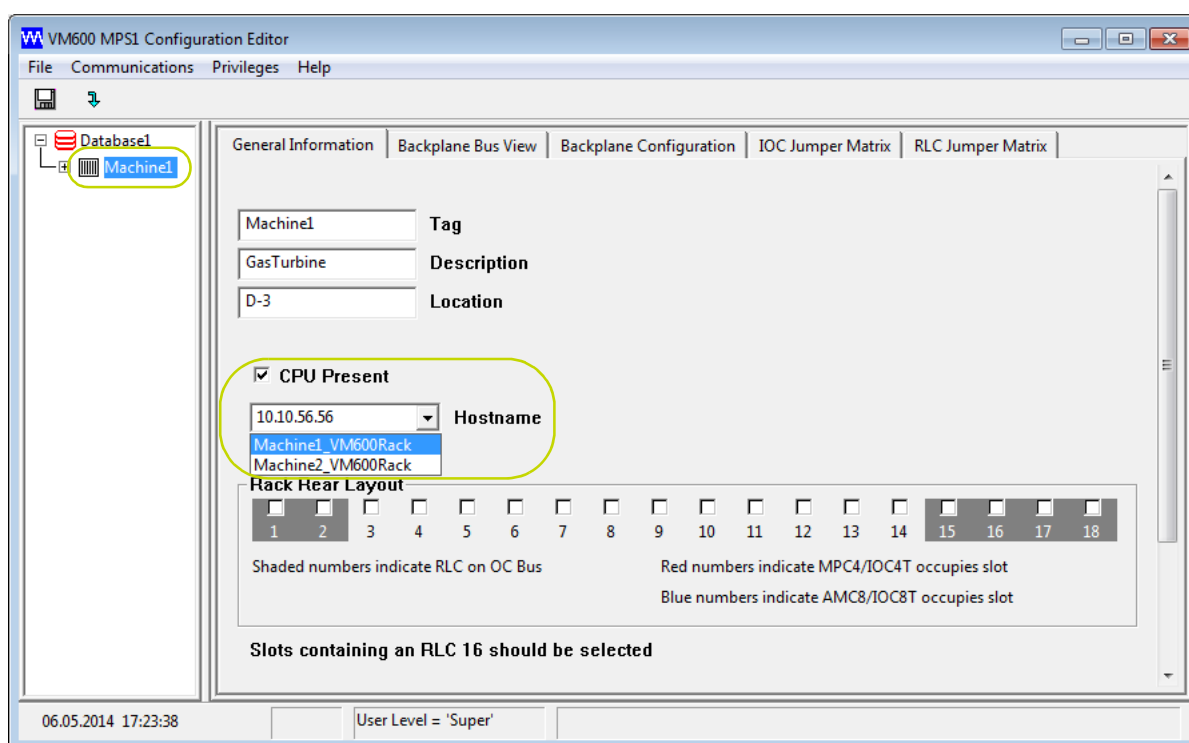

Figure 4-7: Using hostnames in the VM600 MPS software
- 2- In the tree structure (left), select a VM600 rack as shown in Figure 4-7.